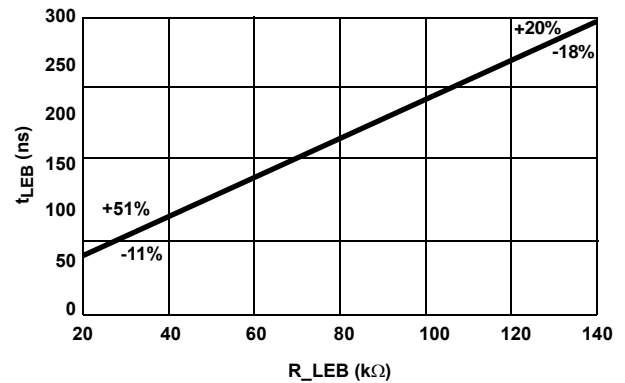

FIGURE 8. R_LEB vs tLEB
- The blanking time can be estimated with Equation 9, whose relationship can be seen in Figure 8. The percentages in the figure are the tolerances at the two endpoints of the curve.